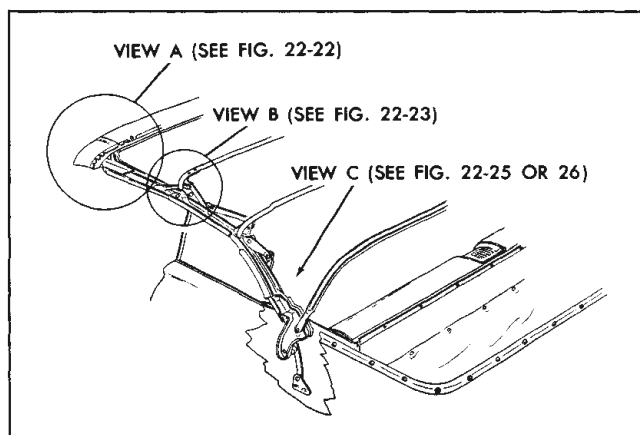

Fig. 22-21 Folding Top Adjustments
If the top, when in a raised position, is too far forward or does not move forward enough to allow the guide studs on the front roof rail to enter holes in the striker assemblies, proceed as follows: (Fig. 22-21).
3. Rear seat back assembly is too far forward.	Relocate rear seat back panel rearward until dimension "Z" between upper rear edge of rear seat back to forward edge of pinchweld finishing molding on "B" styles is 19-1/2 inches \pm 1/16", and on "Y" styles is 17-1/8 inches \pm 1/16". The dimension is measured at approximate center line of body (Fig. 22-21).
2. Rear seat back assembly is too far rearward.	Relocate rear seat back panel forward until dimension "Z" between upper rear edge of rear seat back to forward edge of pinchweld finishing molding on "B" styles is 19-1/2 inches $\pm 1/16$ ", and on "Y" styles is 17-1/8 inches $\pm 1/16$ ". The dimension is measured at approximate center line of body (Fig. 22-21).